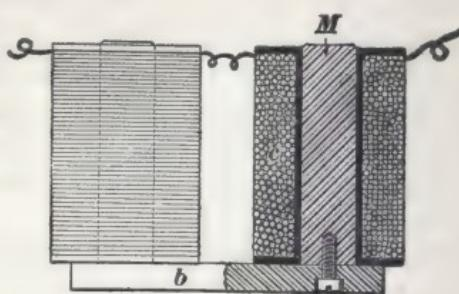
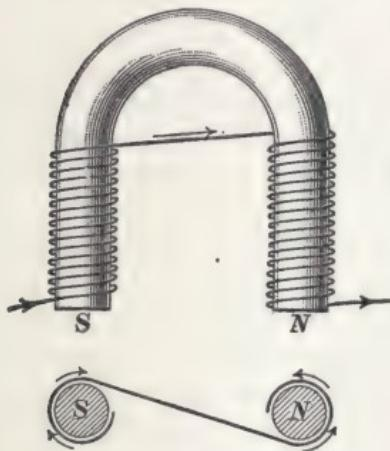

FIG. 29.
FIG. 30.
**32.** The most convenient form of electromagnet for a great variety of uses is the *horseshoe*, or **U-shaped**, electromagnet, Fig. 30. It consists of a bar of iron bent into the shape of a horseshoe with straight ends and provided with two magnetizing coils, one on each end of the magnet. The two ends which are surrounded by the coils are the *cores* of the magnet, and the arc-shaped piece of iron joining them together is known as the **yoke** of the magnet. The ordinary U-shaped electromagnet is made in three parts, namely, two iron cores wound with the magnetizing coils, and a straight bar of iron joining the two cores together for a yoke,
as shown in Fig. 29. In looking at the free ends of the two cores, Fig. 30, the current should circulate around one core in an opposite direction to that around the other. If the current circulates around both cores in the same direction, the lines of force produced in the two cores, respectively, oppose one another, forming two like poles at their free ends and a *consequent pole* in the yoke. The total number of lines of force produced by both coils will be greatly diminished,